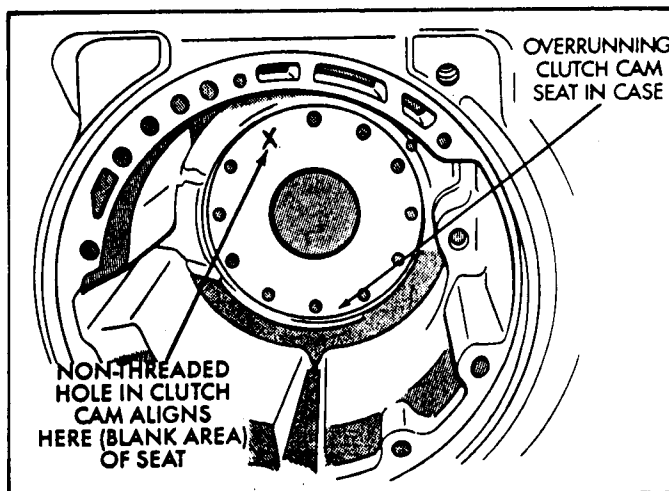

Figure 35
11. This hole MUST align with blank area, marked with an "X" as shown in Figure 35.